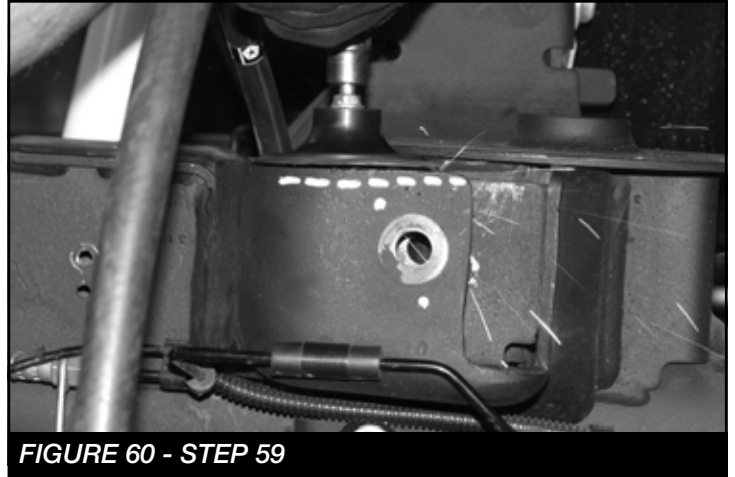

FIGURE 60 - STEP 59
59. Locate the FT44333BK rear track bar support bracket. TRIMMING MAY BE REQUIRED TO INSTALL THE NEW FT44269BK REAR TRACK BAR SUPPORT BRACKET. **SEE FIGURE 60**